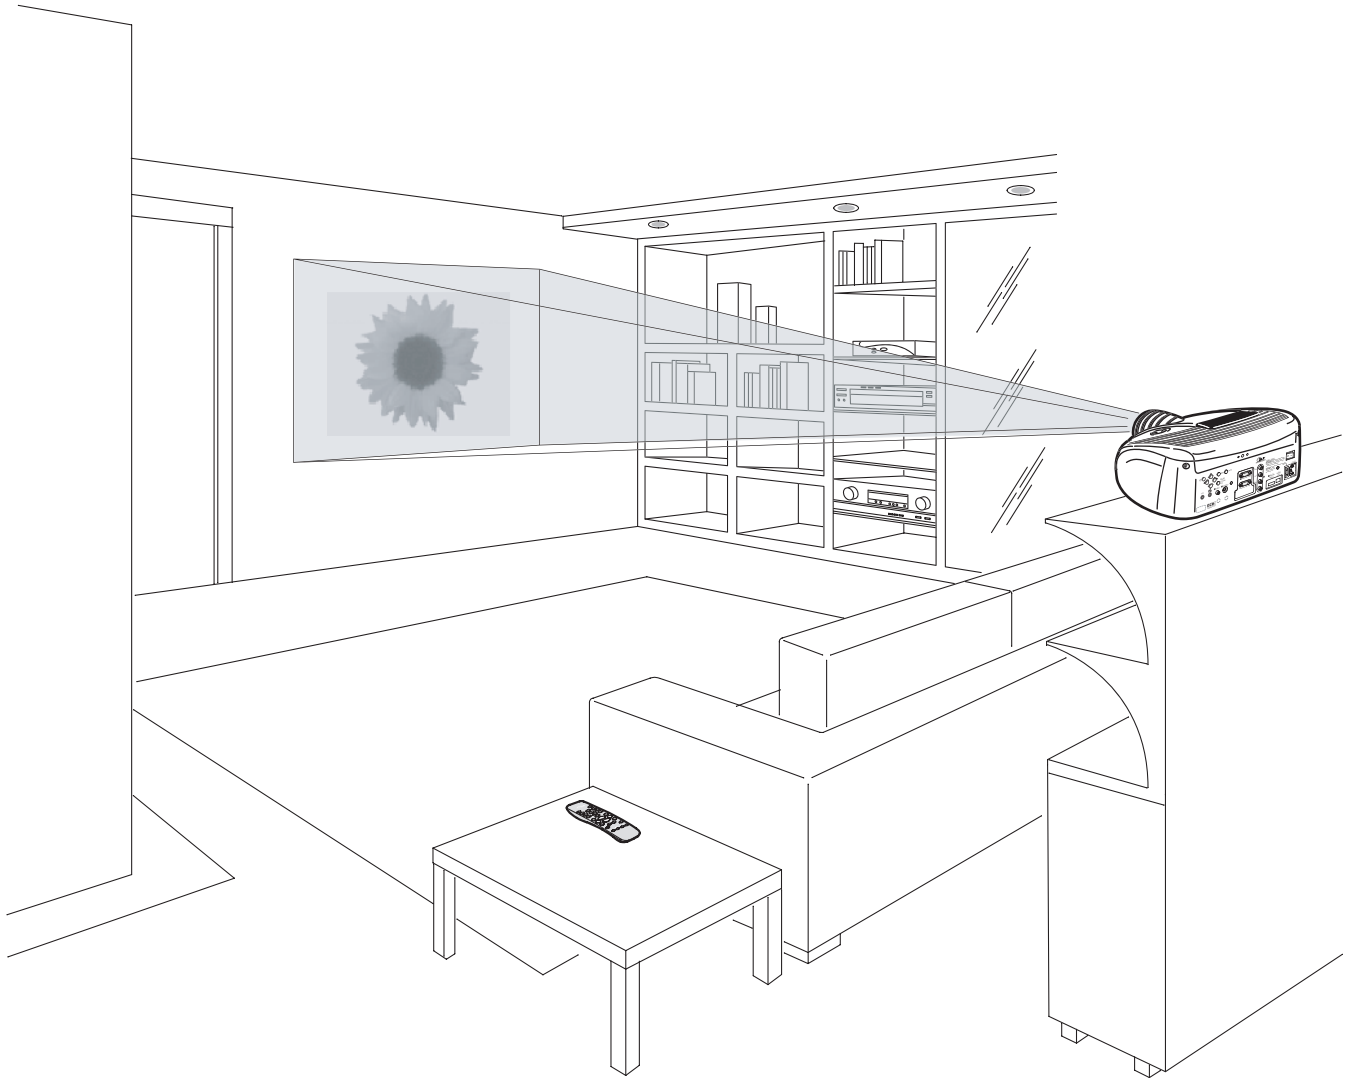

Fig. 1
**HT** projector, a **SIM2 Multimedia SpA** product (Fig. 1).